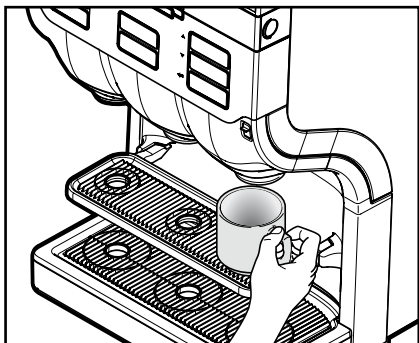

Fig. 10
- Place your cup on the cup tray. (Fig. 10)
1. Place your cup on the cup tray. (Fig. 10)